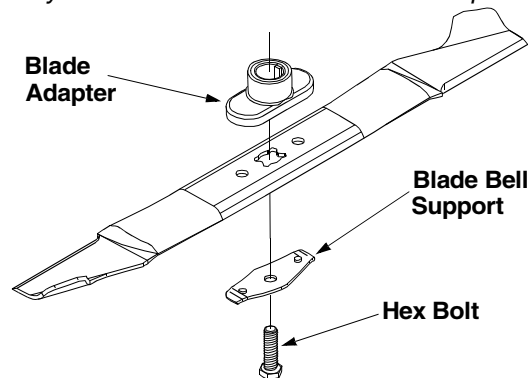

Figure 18
- Remove the bolt and the blade bell support which hold the blade and the blade adapter to the engine crankshaft. See Figure 18.